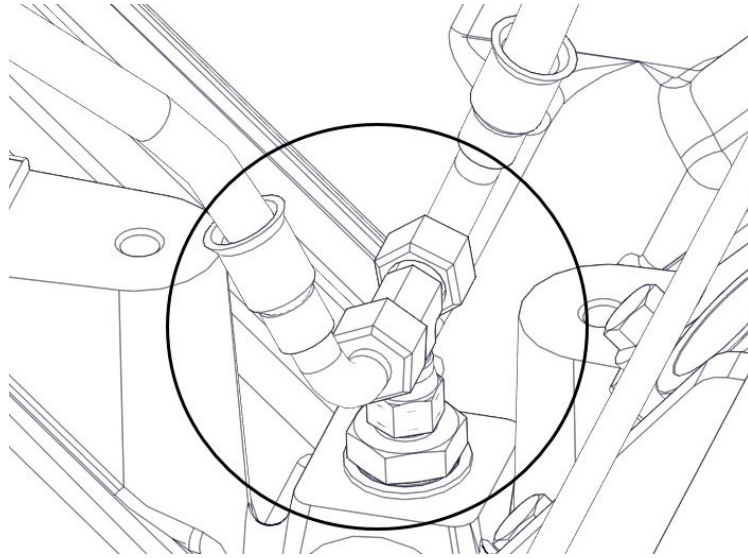

Figure 26. Turbocharger Oil Supply Lines
1. Remove all turbo oil supply lines from the oil inlet valves on top of the cylinder block. (Refer to Figure 26.)
13. Insert and torque down the oil drain tube to the top of the cylinder block to 51 ft/lbs. (Refer to figure 26)
15. Insert and torque down all oil supply lines on top of the cylinder block to 30 ft/lbs. (Refer to Figure 26)